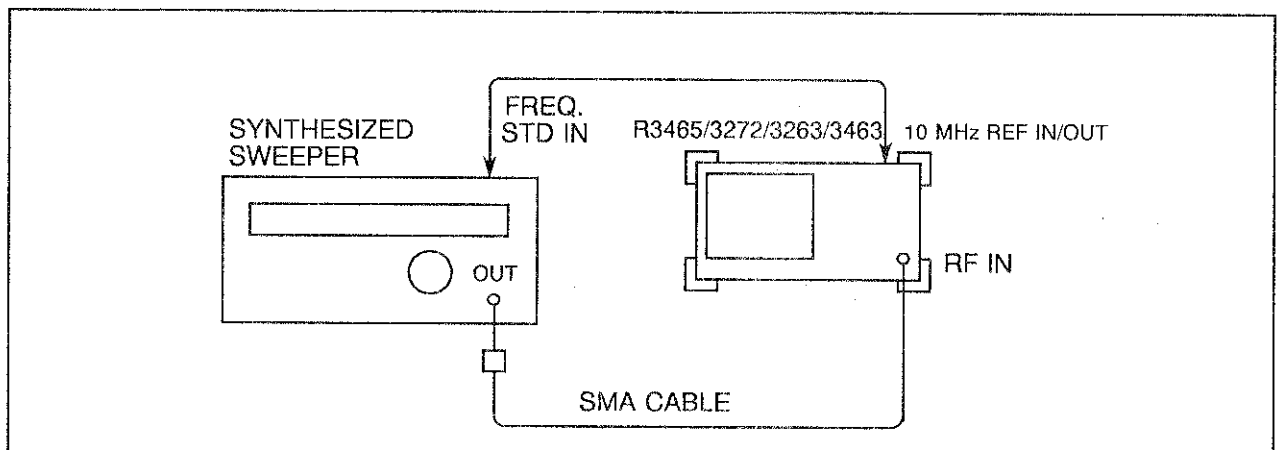

Figure 1-4 Frequency Span Accuracy Test Setup
- (1) Connect the equipment as shown in Figure 1-4.
- (2) Set the SG3 controls as follows: